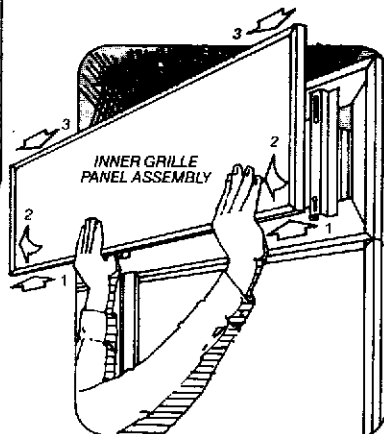
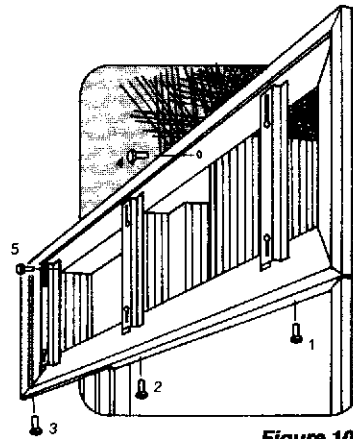

Figure 9
Figure 10
To remove Model 590 grille assembly, the inner grille panel assembly must first be removed. Lift up (1), then pull out at the bottom (2), then pull top section down and out of the top key slot (3) (as in Figure 9). Next, remove the 5 mounting screws that hold the outer grille panel assembly to the top compartment. See Figure 10.